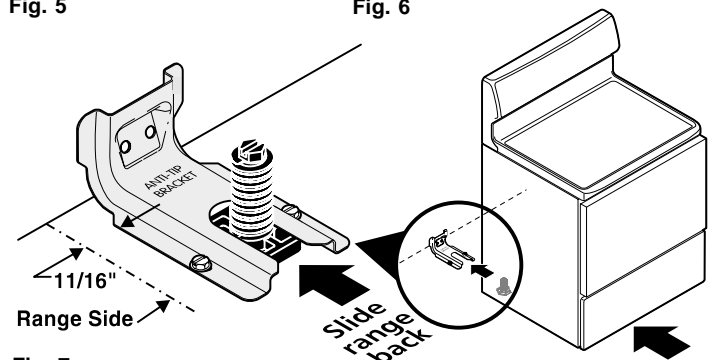

Fig. 7
1c. Level and Position Range - Level range by adjusting the (4) leveling legs with a wrench. NOTE: A minimum clearance of 1/8" is required between the bottom of the range and the leveling leg to allow room for the bracket. Use a spirit level to check your adjustments. Slide range back into position (See Fig. 7).